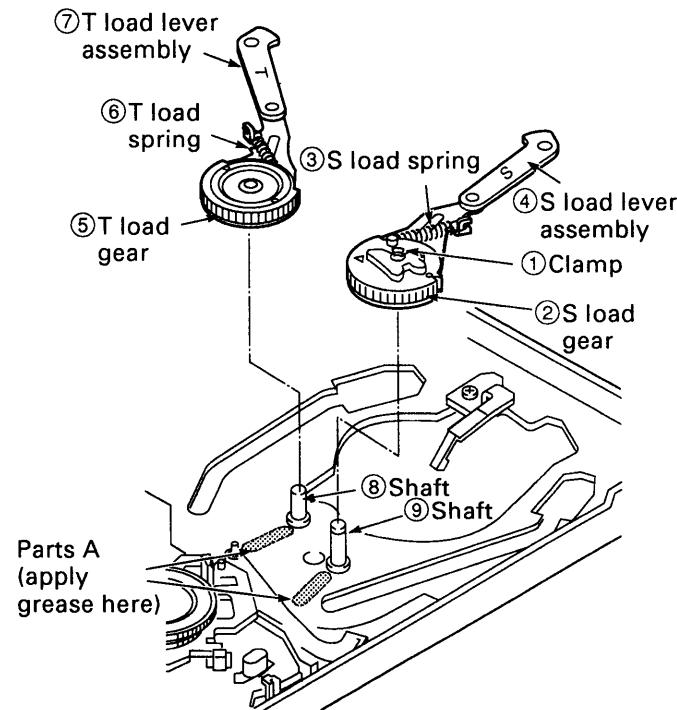
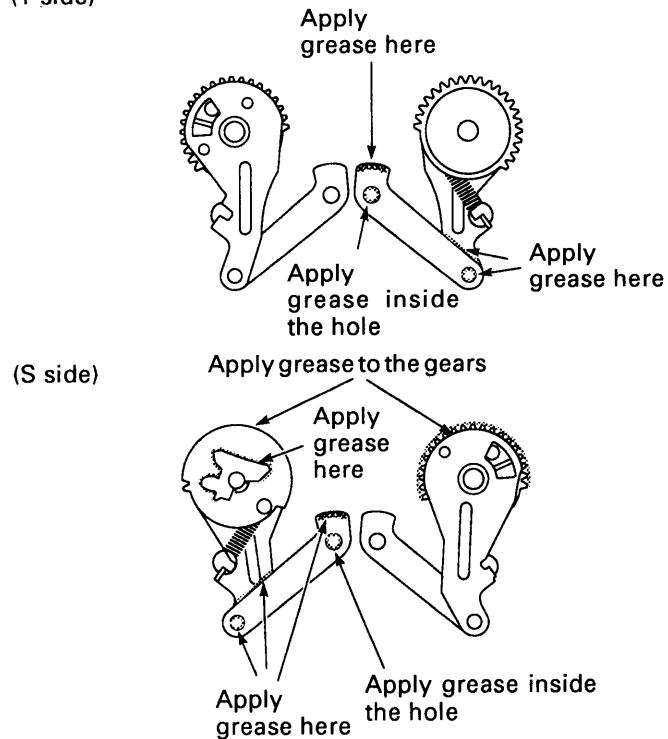

Fig.3-17-1
Fig.3-17-2
3-17. S LOAD GEAR, T LOAD GEAR, S LOAD LEVER ASSEMBLY AND T LOAD LEVER ASSEMBLY (See Figs.3-17-1, 3-17-2 and 3-17-3)
1. Apply grease (VHJ-0100) to the shafts ⑧, ⑨ and parts A shown in Fig.3-17-1. Then apply grease (VHJ-0100) to the parts shown in Fig.3-17-2.